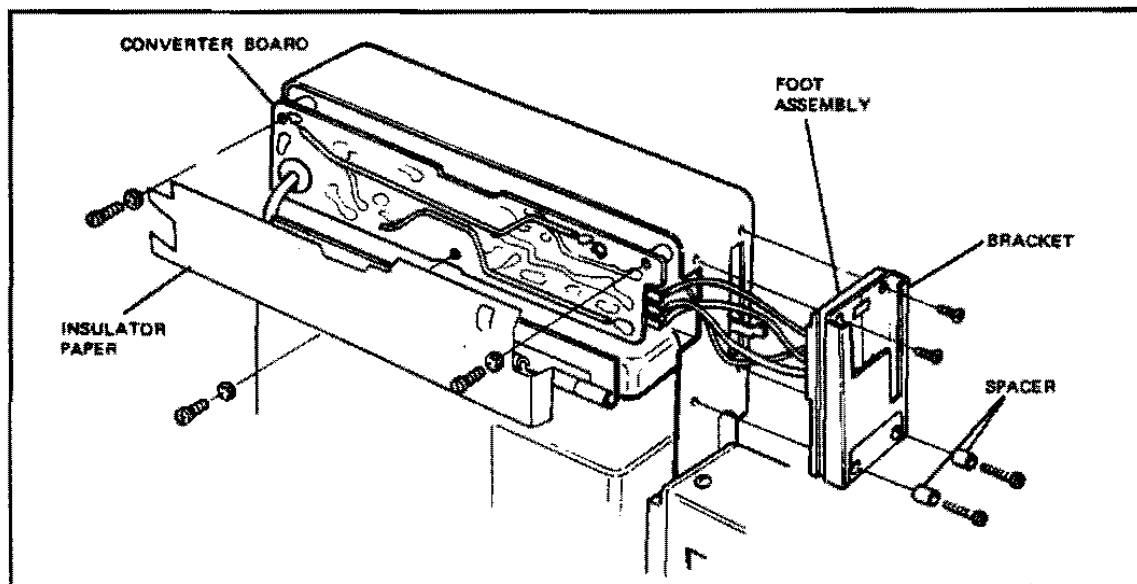

FIG. 4-32 REMOVING THE FOOT ASSEMBLY
- d. Remove the foot assembly from the body (Figure 4-32) by removing the four Phillips head retaining screws and two spacers. Slide the bracket off the foot assembly.